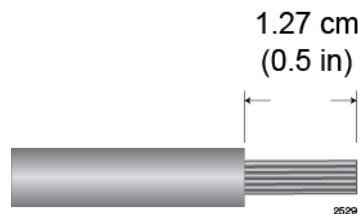

Figure 123. Stripping the Stranded Grounding Wire
1. Prepare an adequate length of stranded 10 AWG grounding wire by stripping it as shown in Figure 123.